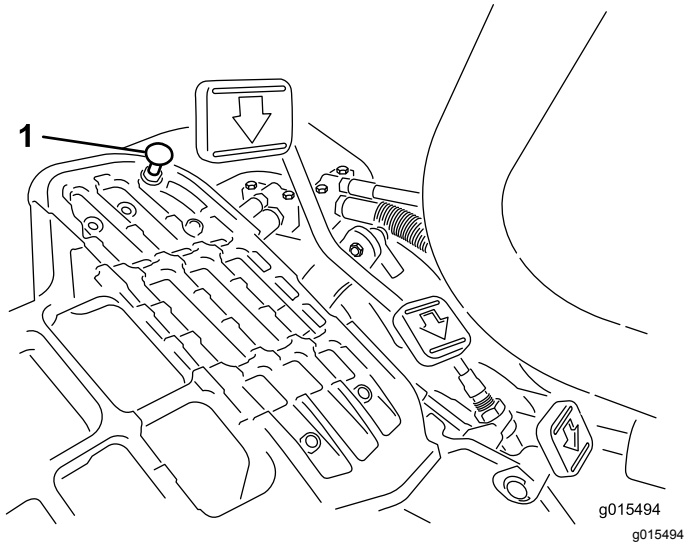

Figure 47
To obtain the maximum-transport speed, put the functional control lever in the TRANSPORT position and press down on the traction pedal. If the pedal contacts the stop (Figure 47) before you feel tension on the cable, perform the following adjustment procedure:
1. Put the functional-control lever in the TRANSPORT position and loosen the locknut securing the pedal stop to the floor plate (Figure 47).